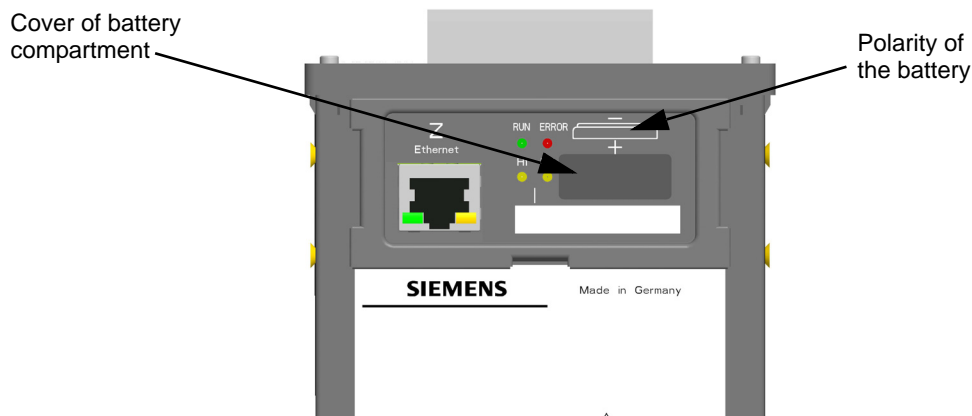

Figure 4-1 Top Side of the SICAM I/O Unit
- ✧ Insert the battery into the battery compartment with the polarity imprinted on the top side of the device (see Figure 4-1).